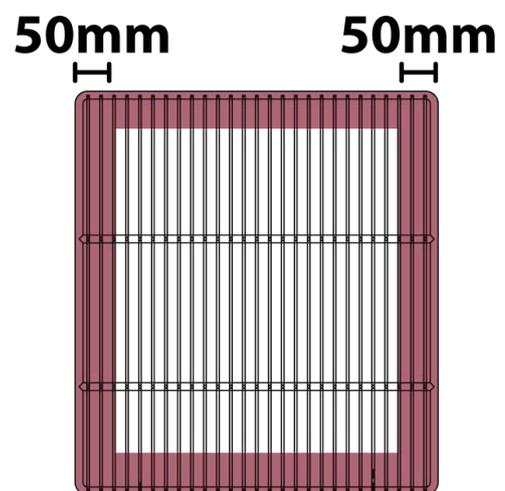

Fig 3.
- Allow space between the samples and walls when using open wire shelves (**Fig 3**).